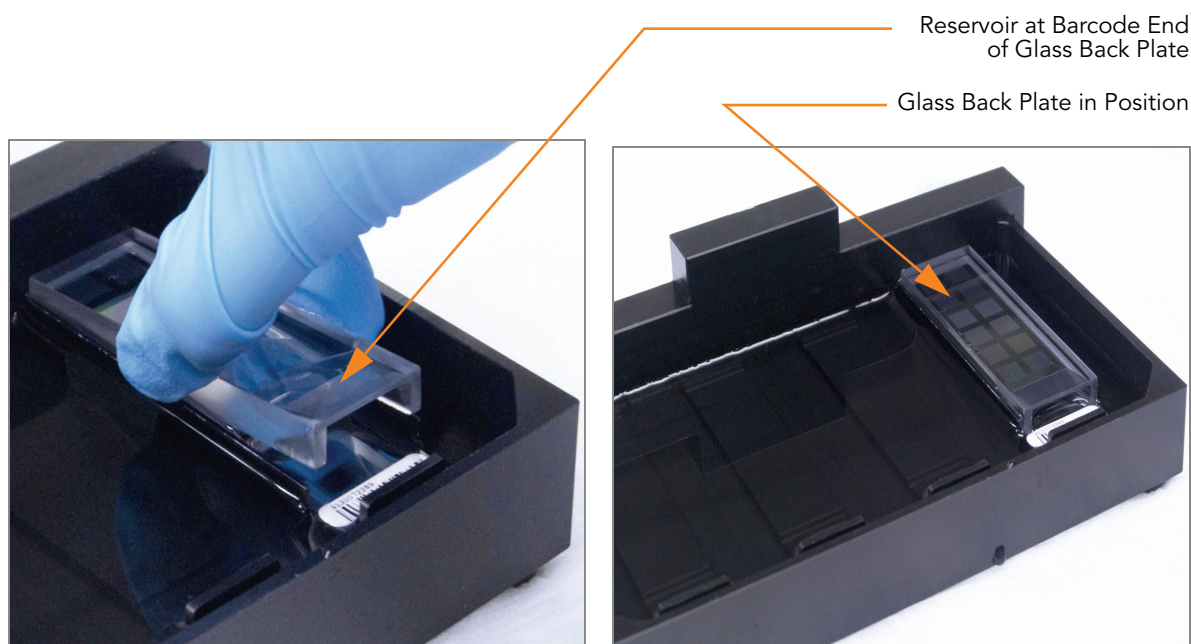

Figure 167 Placing Glass Back Plate onto BeadChip
7. Place a clean glass back plate on top of the clear spacer covering each BeadChip. The plate reservoir should be at the barcode end of the BeadChip, facing inward to create a reservoir against the BeadChip surface (Figure 167).